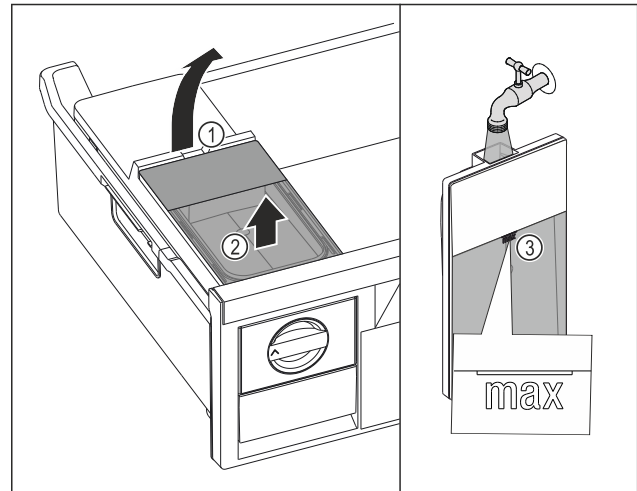

Fig. 141
- ▶ Lift the water tank at the recess Fig. 141 (1).
- ▶ Remove the water tank by lifting it upward. Fig. 141 (2)
- ▶ Fill the water tank with drinking water up to the mark Fig. 141 (3).